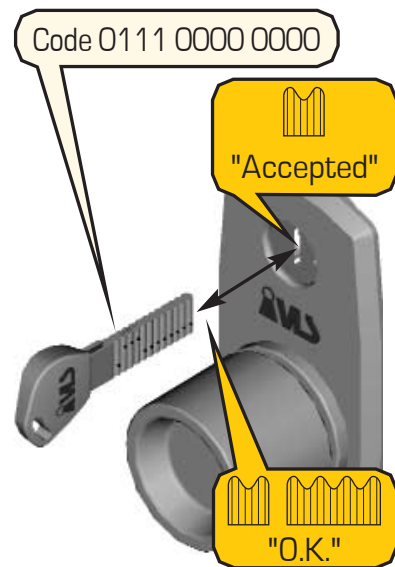

Figure 28 – Programming
**2.** In order to delete the operation code No. 2, set the deleting code 0111 0000 0000 on the key (fig. 28).